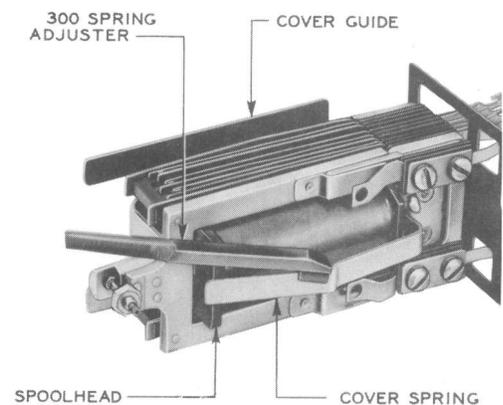

Fig. 11—Method of Adjusting Cover Spring Pressure
(1) If the cover spring does not rest on the spoolhead or if the cover is not held securely on the relay, adjust the spring with the 300 spring adjuster applying it near the crook in
the spring as shown in Fig. 11. If it is not possible to correct the condition in this manner, proceed as covered in (2).
(2) Remove the relay from the mounting plate and remove the screws which hold the cover guide and cover spring in position using the 3-inch C screwdriver. Adjust the cover spring manually by bowing it at the crook in the spring. To adjust the cover guide after it has been removed, bend the part that is secured by the screws as required using the B long-nose pliers. Remount the cover guide and the cover spring, and tighten the mounting screws securely.
(3) If the cover cap does not fit properly, adjust the cover cap prongs as required using the B long-nose pliers.